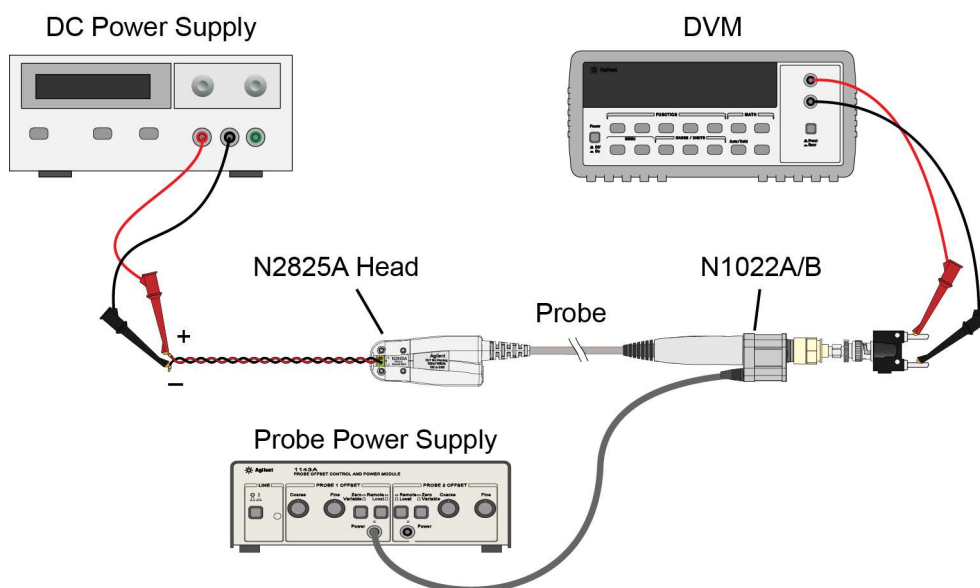

Figure 52 Test Setup for Measuring V_{out}
- 4 Move the multimeter's leads to the banana plug on the output of the N1022A/B as shown in Figure 52.
- 10** Connect the multimeter's leads to the banana plug on the output of the N1022A/B as shown in **Figure 52** on page 104.